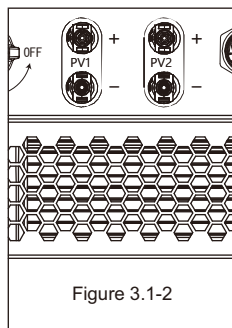

Figure 3.1-2
- PV input connection: Make sure the polarity (+/-) connection is correct when connecting AH-3~6KSL to PV, see Figure 3.1-2.